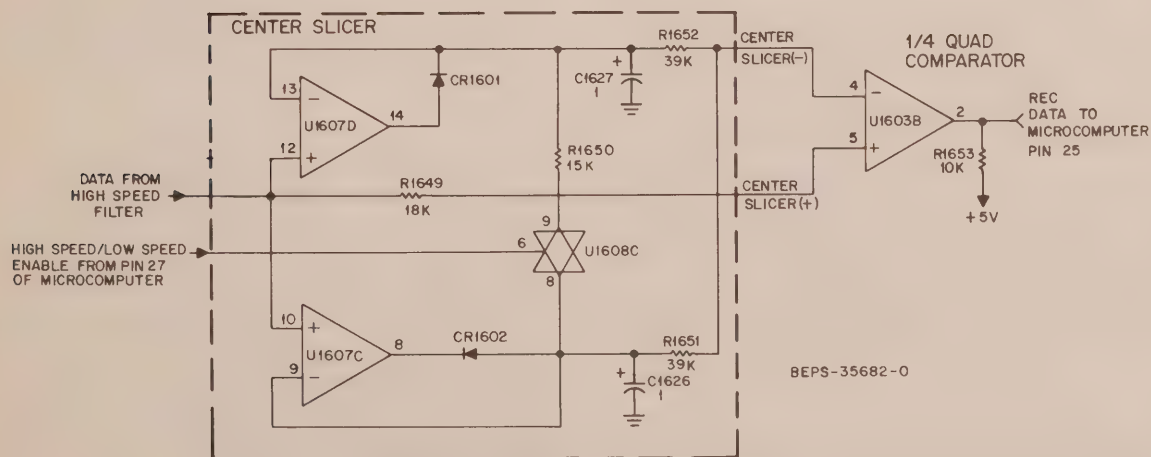

Figure 9. Center Slicer Circuit
3.14.2 The conversion process would be relatively simple if all the received data bits had the same amplitude and they did not contain any average dc voltage. See Figure 8A as an example. If this data is fed to U1603B-5 (see Figure 9) while a dc source equal to
3.14.6 U1607D and CR1601 in Figure 9 form an ideal diode which, along with C1627, form a positive peak detector. C1627 charges to the maximum peak value of the data. Likewise a negative peak detector is formed by U1607C, CR1602 and capacitor C1626.